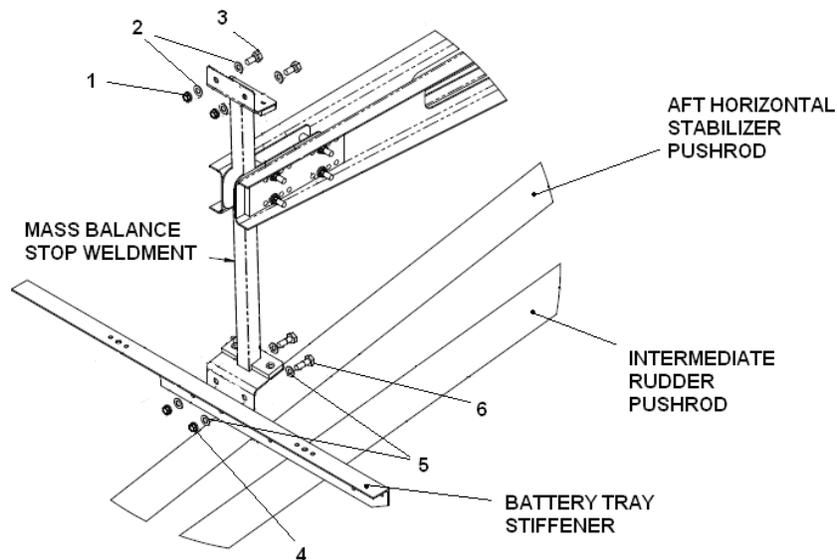
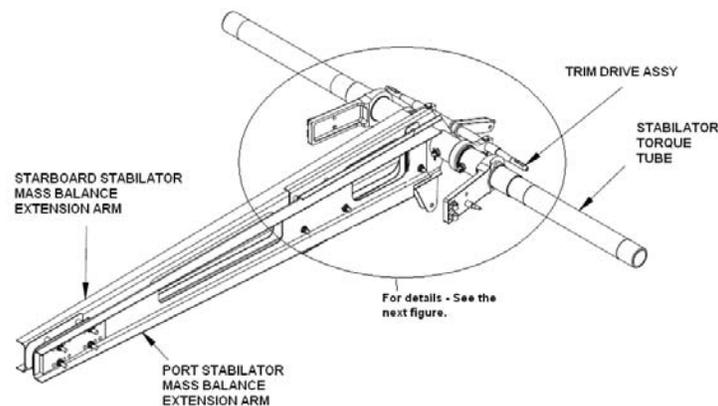
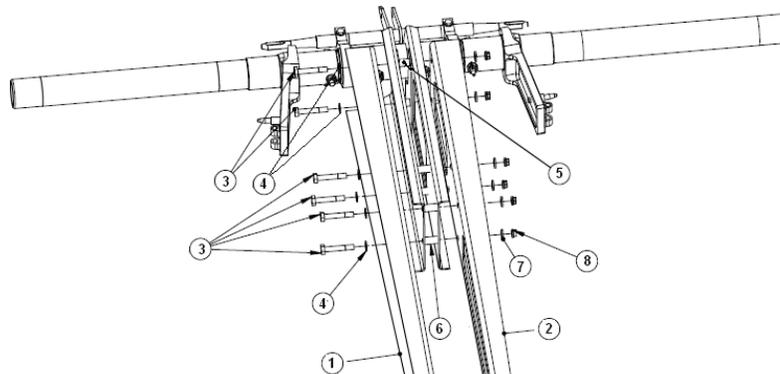

Figure 55-7 Mass Balance Stop Weldment
Figure 55-8 Stabilator Mass Balance Extension Arm
Figure 55-9 Stabilator Mass Balance Extension Arm Detail
5. Refer to Figure 55-7. From inside aft portion of airplane, remove nut (1), washer (2), and bolt (3) that retain top leg of mass balance stop weldment.
6. Remove nut (4), washer (5), and bolt (6) from lower leg of mass balance stop weldment.
8. Refer to Figure 55-8 and Figure 55-9. Remove the following from mass balance extension arms and remove extension arms from airplane:
- Locking Nuts (8) – 6 ea
- Washers (7) – 6 ea
- Spacers (6) – 4 ea
- Spacers (5) – 2 ea
- Washers (4) – 6 ea
- Bolts (3) – 6 ea
4. Refer to Figure 55-8 and Figure 55-9. From inside the airplane, install mass balance extension arms using the following:
5. Refer to Figure 55-7. Install lower leg of mass balance stop weldment using bolt (6), washer (5) and nut (4).
6. Install top leg of mass balance stop weldment using bolt (3), washer (2), and nut (1).
8. Refer to Figure 55-8 and Figure 55-9. From inside airplane, install mass balance plates to mass balance extension arm as follows:
- Bolts (1) – 4 ea
- Washers (2) – 4 ea
- Spacers (4) – 4 ea (and washers*, if required)
- Mass Balance Bearing Surface (5) – 2 ea
- Tailplane Balance Mass (3) – 2 ea
- Washers (6) – 4 ea
- Nuts (7) – 4 ea